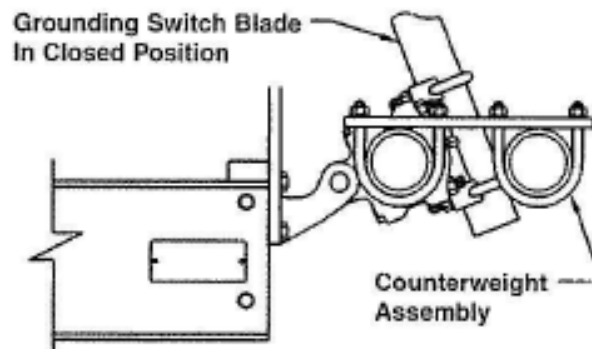

Figure 8: Counterweight Assembled
4. If furnished with a Counterweight, refer to the Grounding switch Unit Assembly and **Figure 8** for installation details.